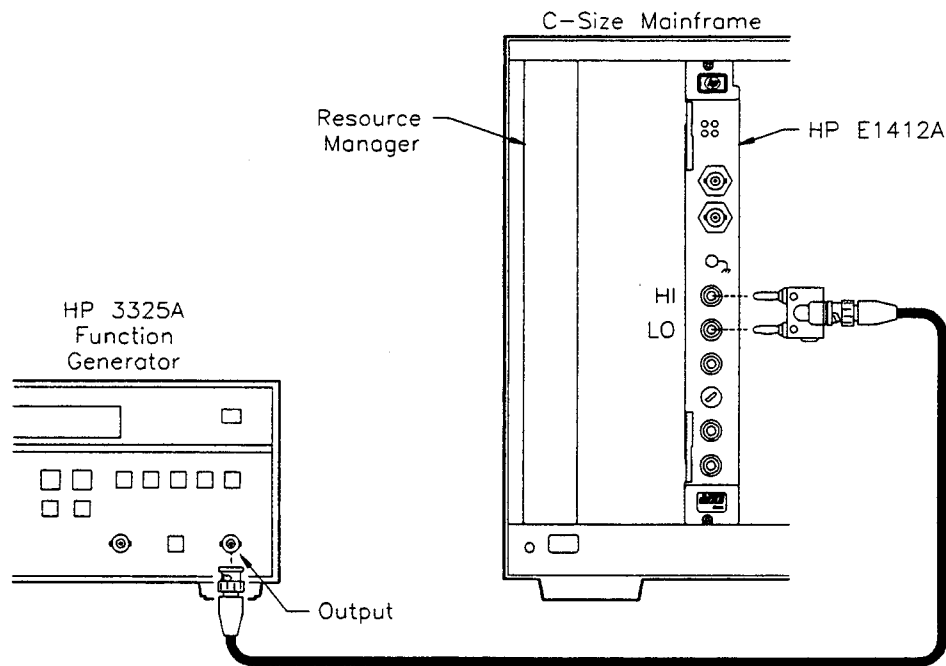

Figure 5-7. Frequency Adjustment Setup
1. Connect the Frequency Standard output across the HI and LO terminals of the HP E1312A or HP E1412A as shown in Figure 5-7.